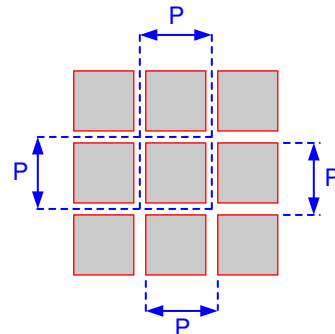

Figure 5-8. Micromirror Array Physical Characteristics
- (1) See Figure 5-8.
(2) The structure and qualities of the border around the active array includes a band of partially functional micromirrors called the *Pond Of Mirrors* (POM). These micromirrors are structurally and/or electrically prevented from tilting toward the bright or “on” state but still require an electrical bias to tilt toward “off.”